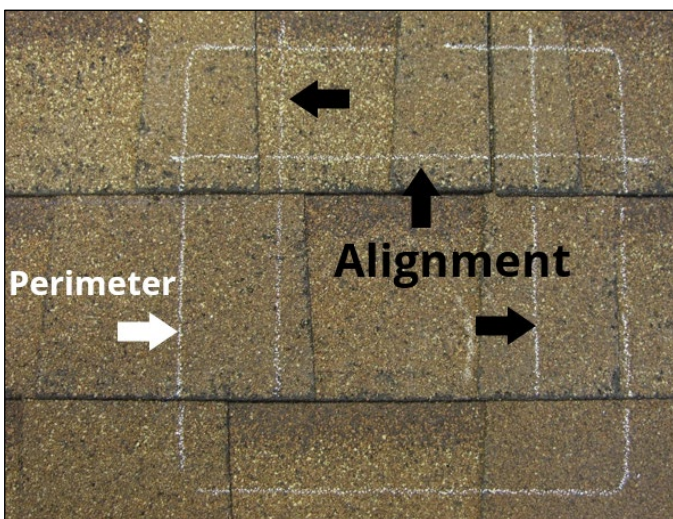

Fig. B2
3. Remove the flashing and use a straight edge to trace the lines between the alignment marks onto the shingles (Fig. B2).